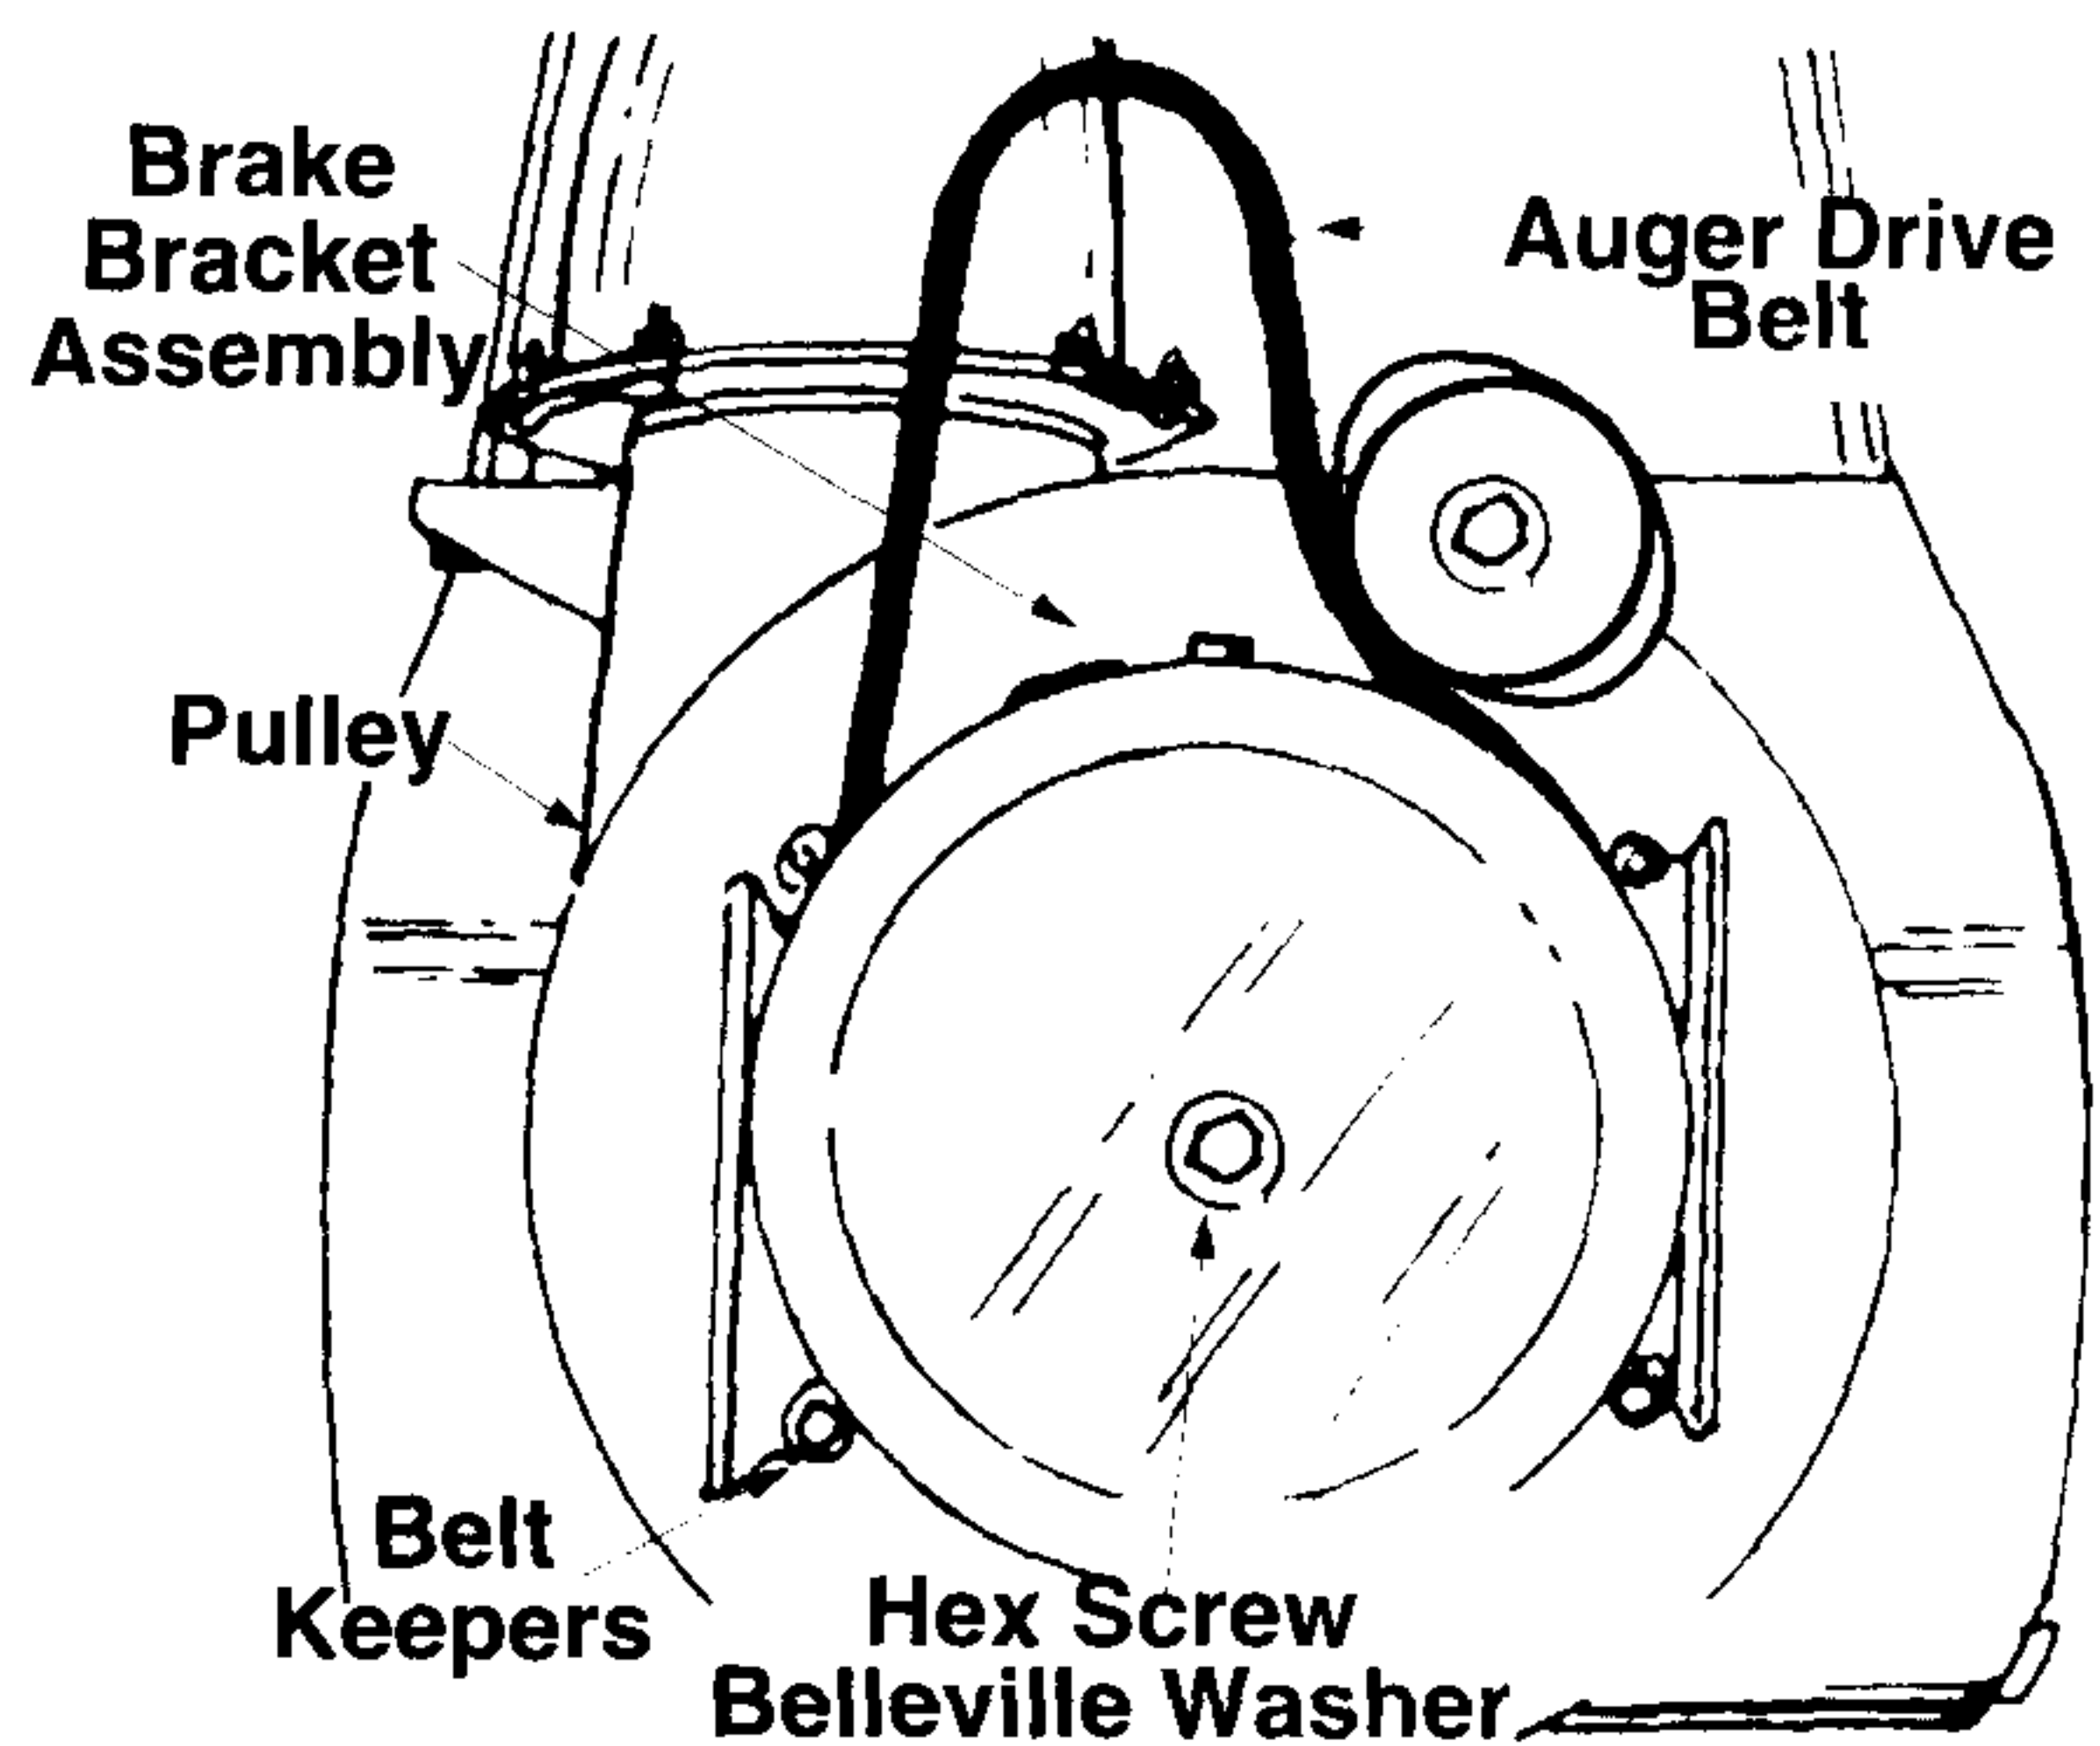

Figure 21
9. Using a 1/2" wrench remove the hex screw and belleville washer from the centre of the pulley on the auger housing. Lift the brake bracket assembly out of the pulley groove and remove the pulley. See Figure 21. Be careful not to lose the key.